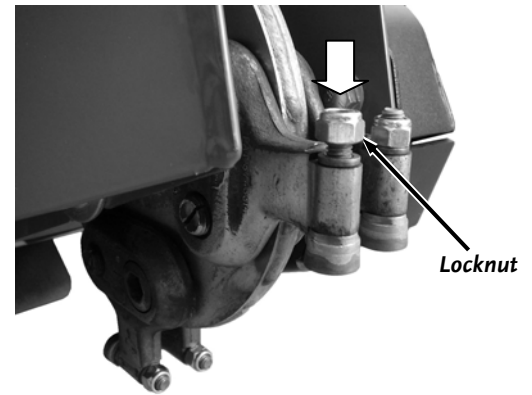

Figure 40
3. Lightly tap on the top of the Locknut with a Dead-blow Hammer so the Tooth will drop down away from the Tooth Mount (**Figure 40**).